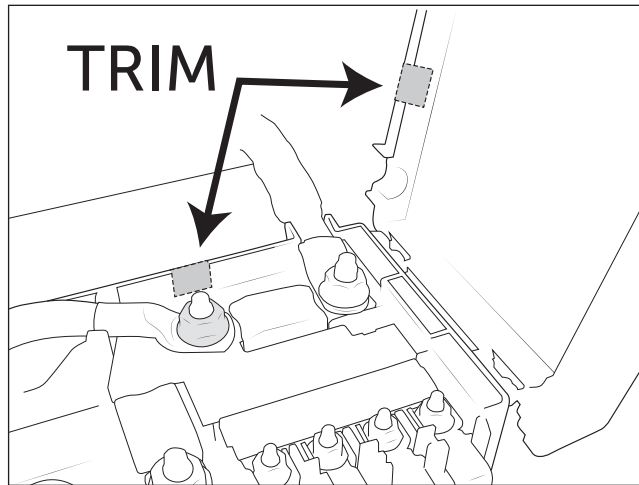

Figure 24
23. Trim the pre-fuse case and lid to make space for the positive winch connection (fig. 24).